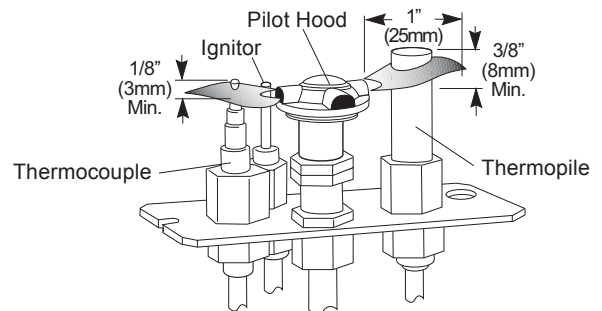

Figure 28. Correct Pilot flame appearance.
2. **PILOT FLAME:** The pilot flame should be steady, not lifting or floating. The flame should be blue in color around the pilot hood, with traces of yellow toward the outer edges. It is imperative that the pilot flame engulf the top 3/8" of the thermopile (power generator) and the top 1/8" of the quick drop out thermocouple. The pilot flame should project out of the pilot hood 1" at all three ports. See Figure 28.